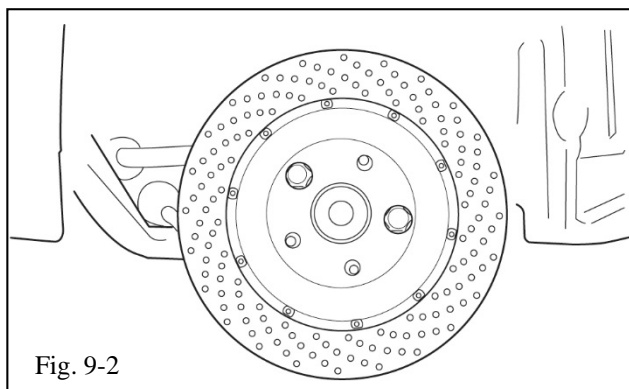

Fig. 9-2
- (c) Install the rotor assembly, seating it squarely on the hub face. Place two wheel nuts on opposite studs to prevent the rotor from falling off the hub and to hold it in place (finger tight) (Fig. 9-2).